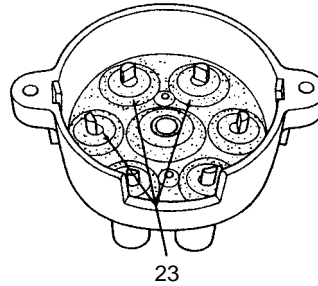

Figure 7
- (7) White or gray chalky deposits around the electrodes inside the distributor block (23) indicates lack of pressurization. See Figure 7. Refer to paragraphs 3.B and C of this bulletin for cleaning and pressurization system check. Check distributor block assembly according to instructions in Slick Maintenance and Overhaul Manual L-1037.